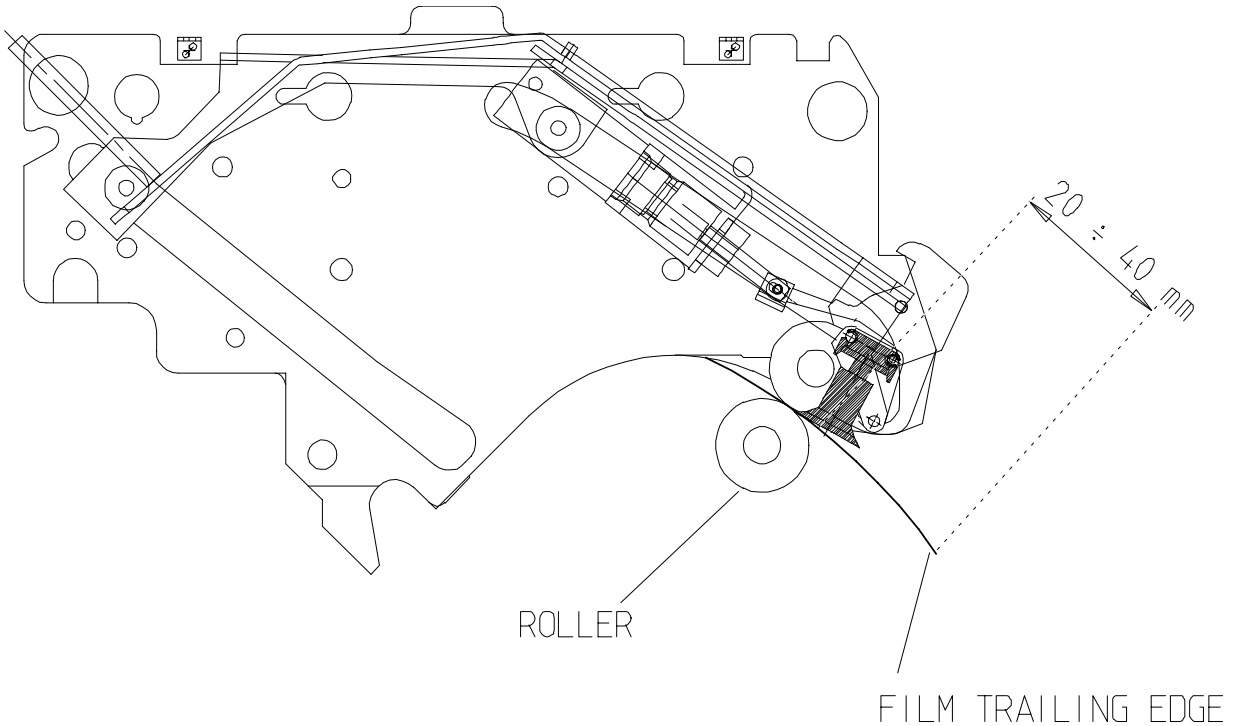

figure 12
3. Observe from the right hand side that the trailing edge of the FILM just touches the CASSETTE SUCKERS (look at the middle of the SUCKERBAR), when the FILM is transported into the CONVEYOR (figure 12).